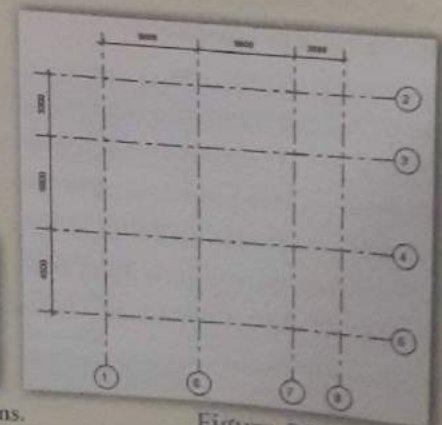

Figure 29: Grids.
10. Complete the grid lines as shown in the below figure (Figure 29).